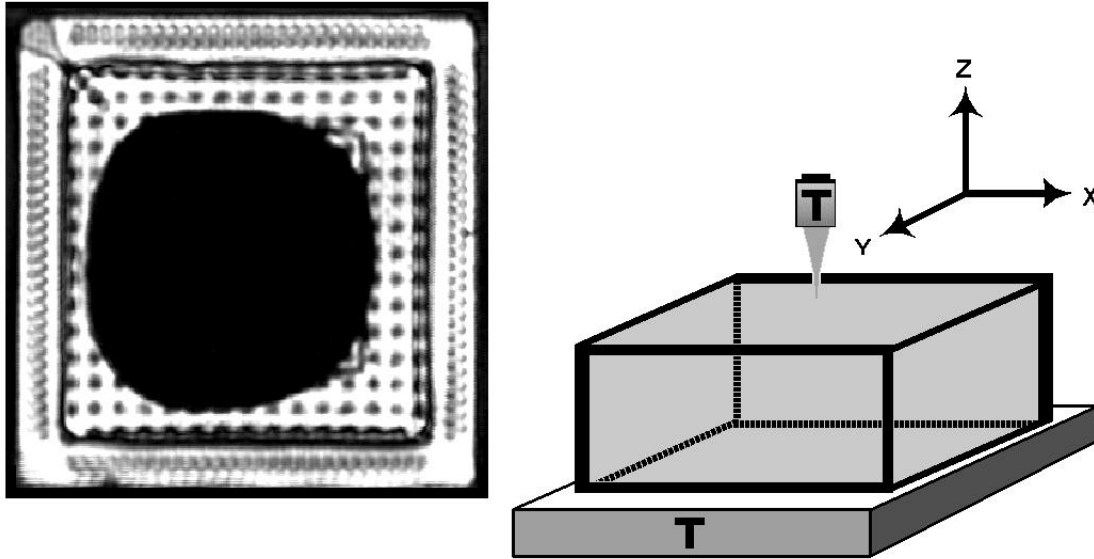

Figure 4 — Example of Through Transmission Display
Through Transmission Mode - Acoustic data collected in an X-Y plane throughout the depth (Z) using a through transmission acoustic microscope. A Through Transmission mode scan contains only amplitude information at each point in the scan plane. A Through Transmission scan furnishes a two-dimensional (area) image of transmitted ultrasound through the complete thickness/depth (Z) of the device. See Figure 4.